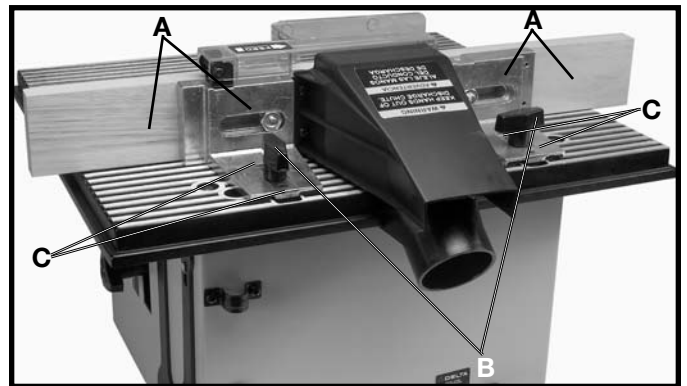

Fig. 18
Either half of the two-piece fence assembly (A) Fig. 18, can be moved independently. To adjust each fence half, loosen lock knob (B) and move fence half (A) to the desired position depending on the work being performed. Then tighten lock knob (B).
To check and adjust, move both fence halves in or out until they are in line with each other. Using a straight edge check to see if both fence halves are parallel with each other the complete length of the fences. If an adjustment is necessary, loosen four socket head cap screws (C) Fig. 18, located on the fence bracket casting directly in front of and in back of lock knobs (B) Fig. 18, and adjust the fences accordingly. Then tighten the four screws.